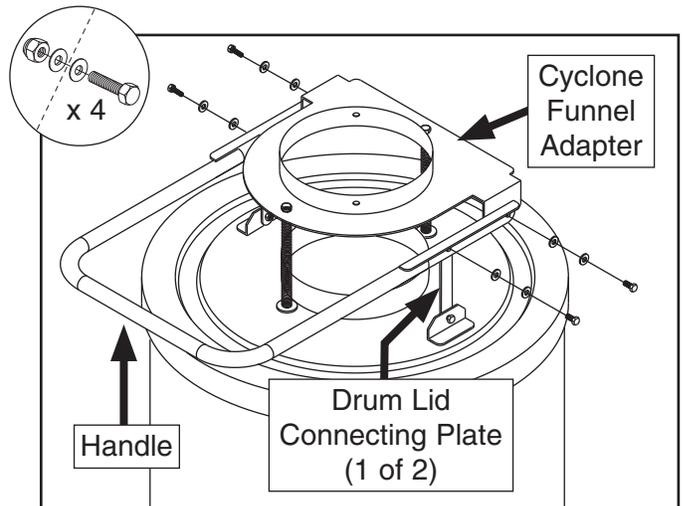

Figure 24. Attaching collection lid handle to connecting plate and adapter.
- Attach collection lid handle to cyclone funnel adapter and drum lid connecting plates with (4) $\frac{3}{8}$ "-16 x 1" hex bolts, (8) $\frac{3}{8}$ " flat washers, and (4) $\frac{3}{8}$ "-16 lock nuts (see **Figure 24**).